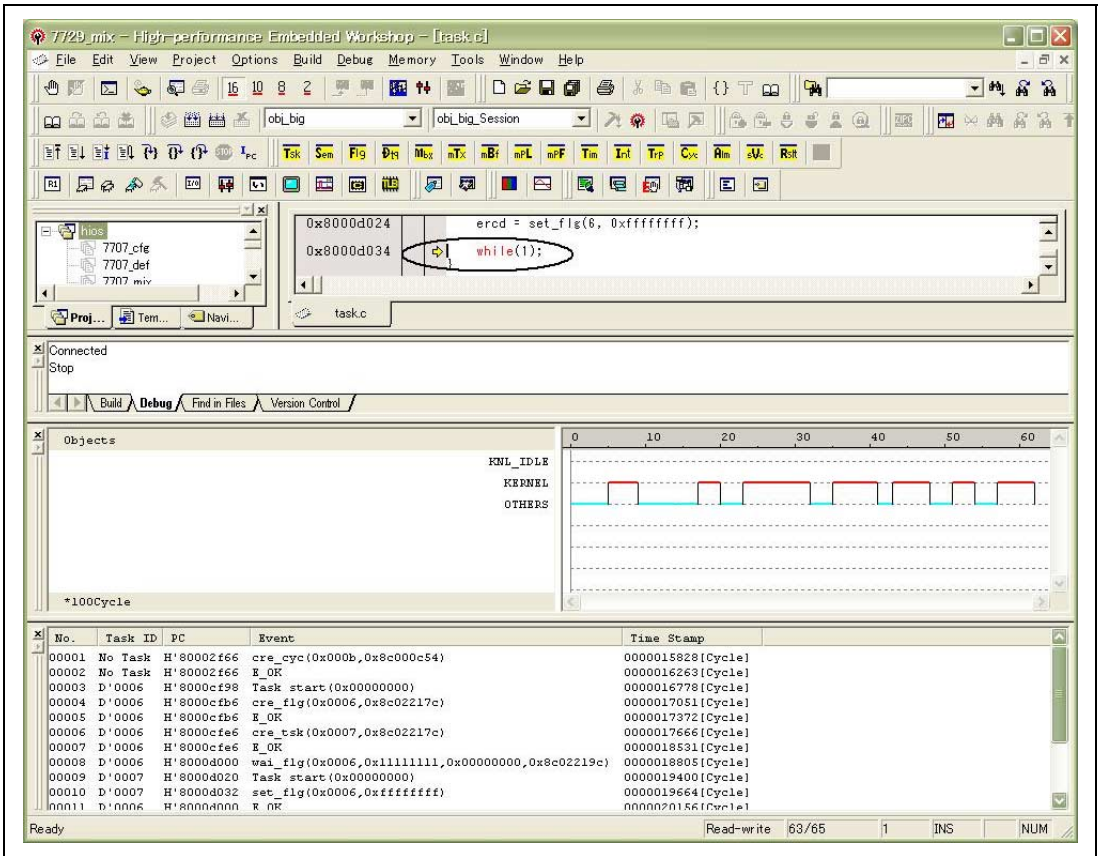

Figure 2.10 Source Window with the Execution Stopped
(10) Execution stops within the while(1); statement of Task7 as shown in figure 2.10.